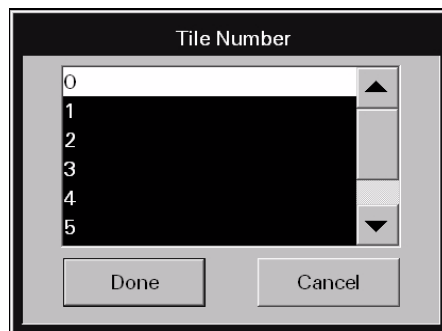

FIGURE 15-4 Tile Number dialog box
2. Select the **Add Tile** button. The Tile Number dialog box (shown in FIGURE 15-4) is displayed. The number of tiles that are displayed is dependent on the number of configured central station displays and available patient tiles. For additional information, refer to TABLE 15-1 .
2. Select the **Remove Tile** button. The Tile Number dialog box (shown in FIGURE 15-4) is displayed. The number of tiles that are displayed is dependent on the number of patient tiles assigned to the selected pager.